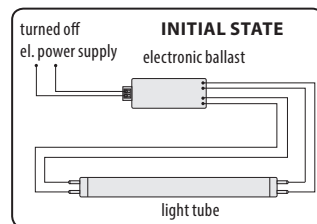

Fig. 3A
- **In the case of light fixtures that contain an electronic ballast**, it is necessary to remove the electronic ballast prior to using the LED tube according to figure 3A to 3C (this task may, however, only be performed by a person with the necessary electrical qualifications. After removing the electronic ballast, it is no longer possible to replace the LED tube with a fluorescent light tube. Upon disconnection of the electronic ballast, the LED tube is connected single-sided.